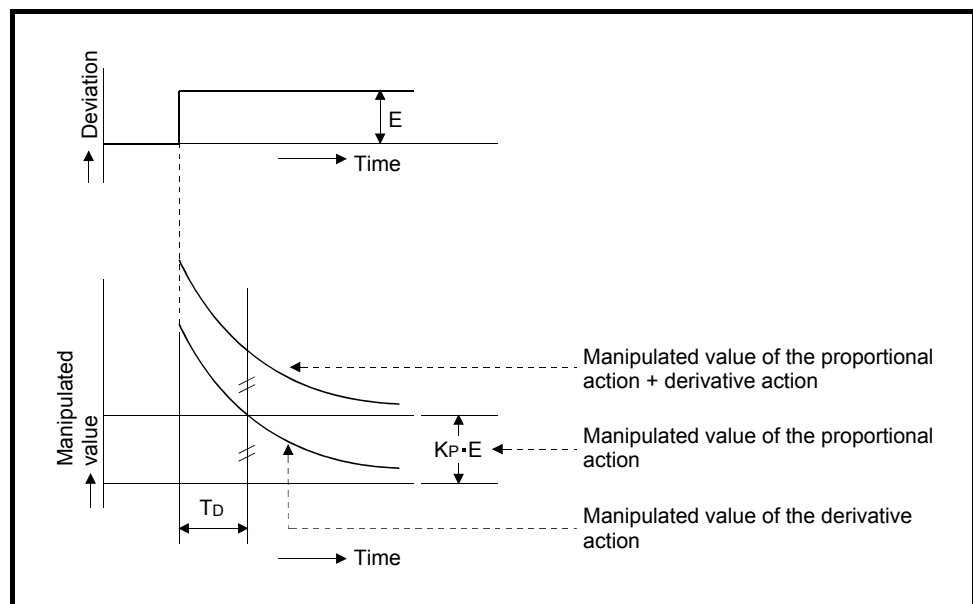

Fig. 1.9 Derivative action for step response
- (2) In the derivative action, the time from the deviation occurrence until the manipulated value of the derivative action becomes that of the proportional action is called the derivative time, and is indicated by  $T_D$ .
- (3) Figure 1.9 shows the derivative action for the step response with a constant deviation.
- (4) The derivative action is used in the PD action in combination with the proportional action, or the PID action in combination with the proportional and integral actions.